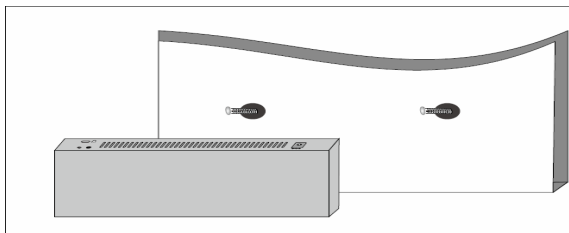

Figure 2-3 Wall Mount Installation
**Step 1:** Drill 2 holes with a diameter of 5mm on the wall. The distance between the 2 holes is 110mm, and the line through them should keep horizontal, as illustrated in Figure 2-3.